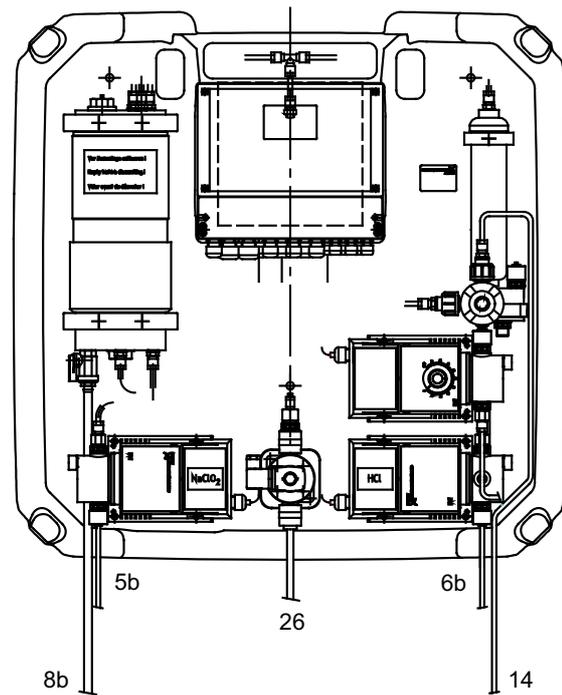
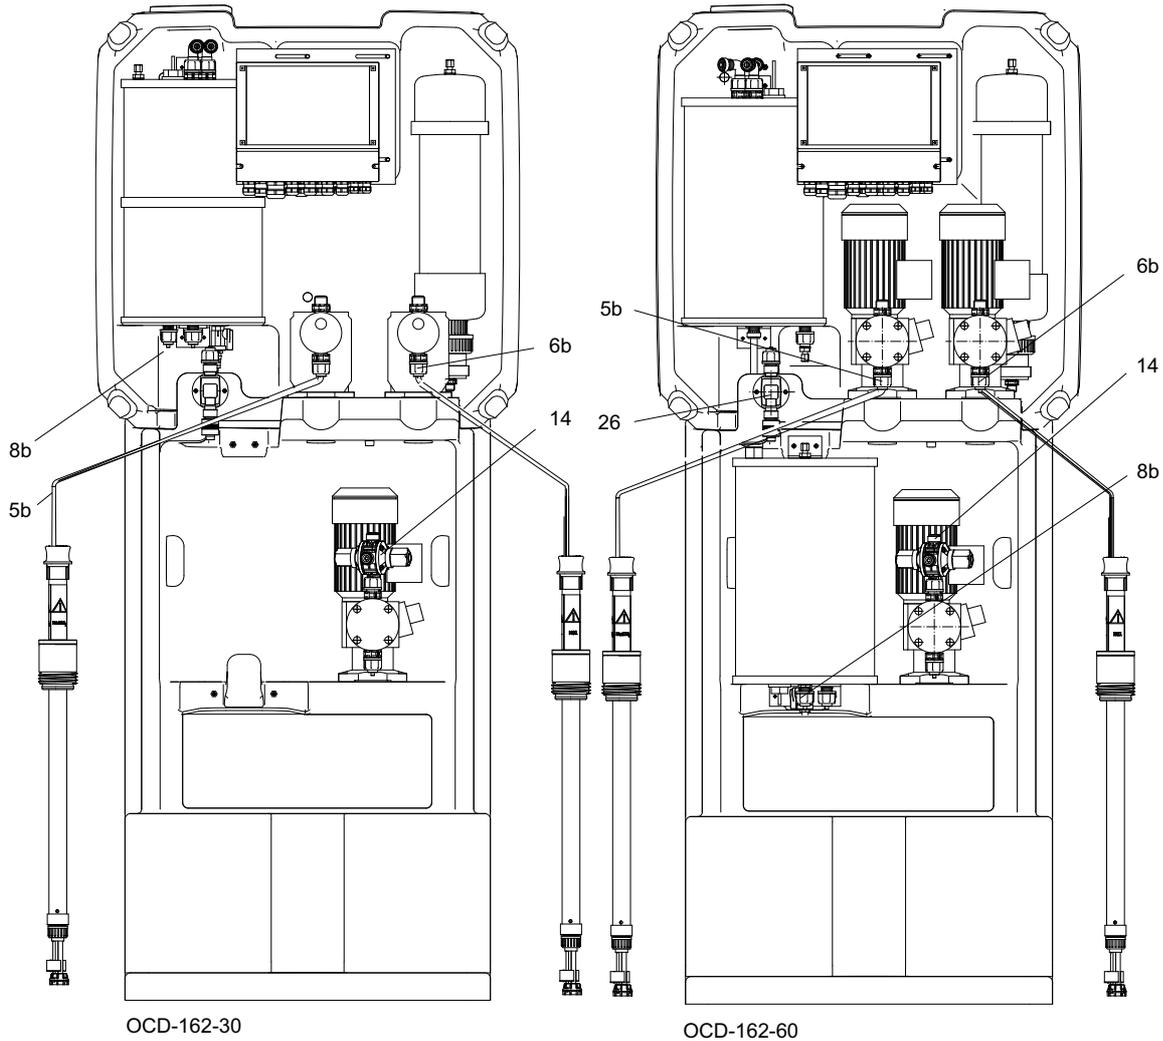

Fig. 5 Oxiperm Pro (OCD-162-5, -10) hydraulic connections
Fig. 6 Oxiperm Pro (OCD-162-30, -60) hydraulic connections
- dilution water hose at the solenoid valve (fig. 5 and fig. 6, pos. 26)
- hoses for both suction lances on the suction side of the chemical pumps (fig. 5, pos. 5b and 6b)
- dosing line from the dosing pump to the injection unit at the main line or to the flow control instrument in the mixing module or to the external batch tank. (fig. 5 and fig. 6, pos. 14)
- hose at the drain cock of the reservoir tank (only installed for flushing and ventilation) (fig. 5, pos. 8b).